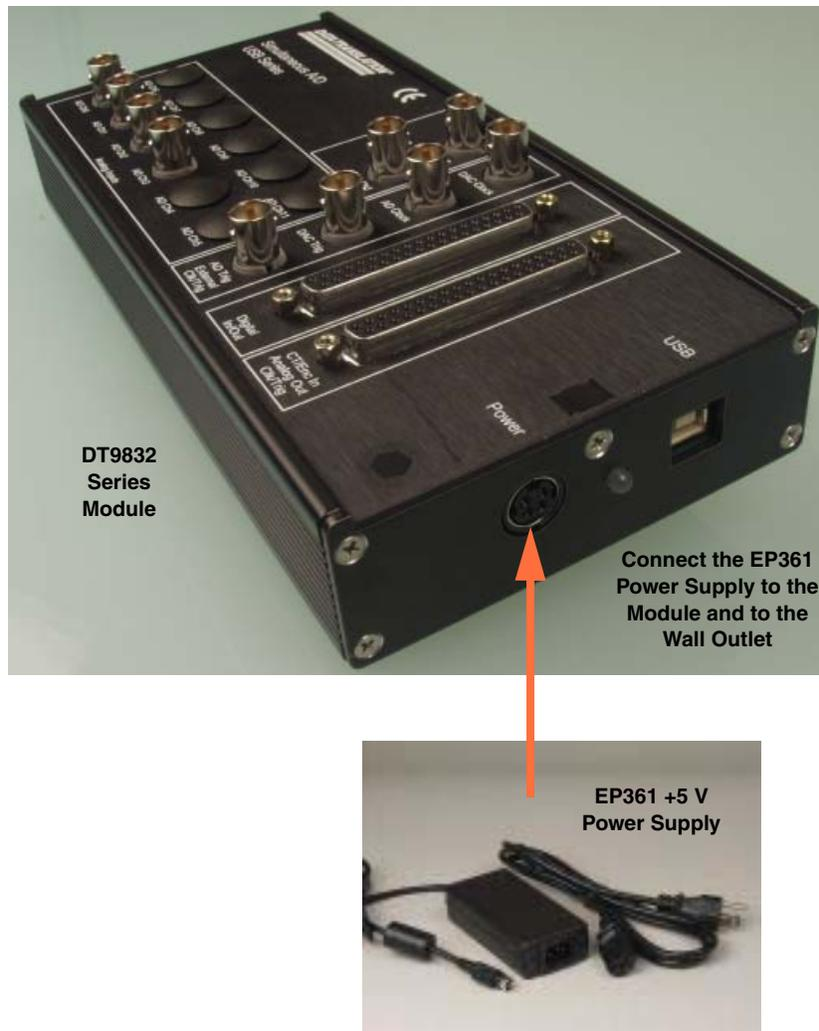

Figure 3: Attaching a +5 V Power Supply to the DT9832 Series Module
1. Connect the +5 V power supply to the power connector on the DT9832 Series module. Refer to Figure 3.